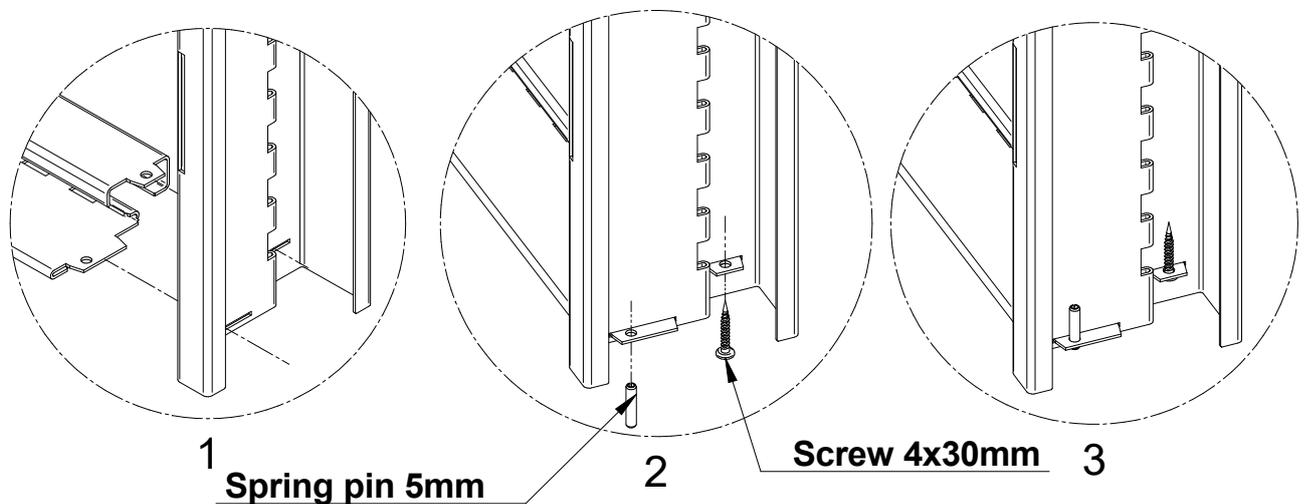

Figure 8. Threshold with dowel joints. Use spring pins for threshold tab heights under 10 mm; otherwise use screws
- 2.4 For an exterior door frame that is assembled on site (Appendix 1. Door frame assembly on site), the joints must be sealed with silicone. Thresholds are fastened with screws or spring pins (figure 8, view B), except 5mm sheet thresholds, which are fastened with flat head bolts M5x10 (figure 8, view C). Spring pins are used when threshold tab height from floor is lower than 10mm, otherwise screws are used. The threshold joint located on the exterior side of the door seal must be silicone-sealed. Allowed silicones are Soudal Soudaflex 40FC, Soudal Silirub 2/S and Penosil General Silicone.